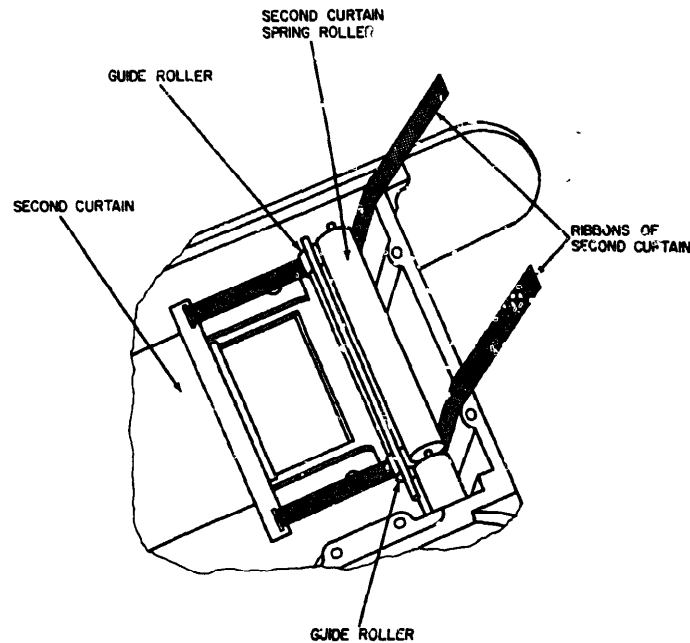
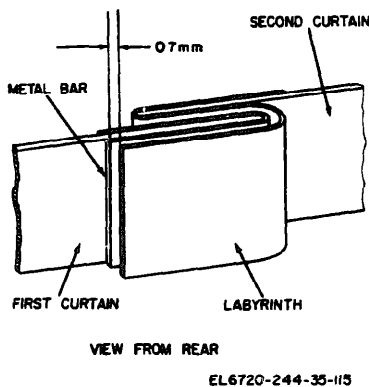

Figure 4-4. Positioning second shutter curtain ribbons.
Figure 4-5. Position of shutter curtain bar and labyrinth.
(1) Thread the ribbons under the guide rollers, and under (behind) the second curtain spring roller (fig. 4-4).
(2) Glue the ends of the ribbons on the second curtain spring roller.
(3) Tension the second curtain spring roller until the metal bar of the first curtain engages the labyrinth of the second curtain (fig. 4-5).
(6) Wind the shutter about half way. The crimped edge of the first curtain bar should extend for approximately 0.7 mm outside the second curtain labyrinth, when viewed from the rear (fig. 4-5).
(7) Rotate the second curtain roller, with the thumb, until a narrow slit is visible between the first and second curtains. The edges of the curtains must be parallel to each other.
(8) If the edge of the second curtain is not parallel with the edge of the first curtain, or with the end of the film aperture, reglue one of the curtain ribbons. Keep the 0.7 mm dimension as in (6) above.